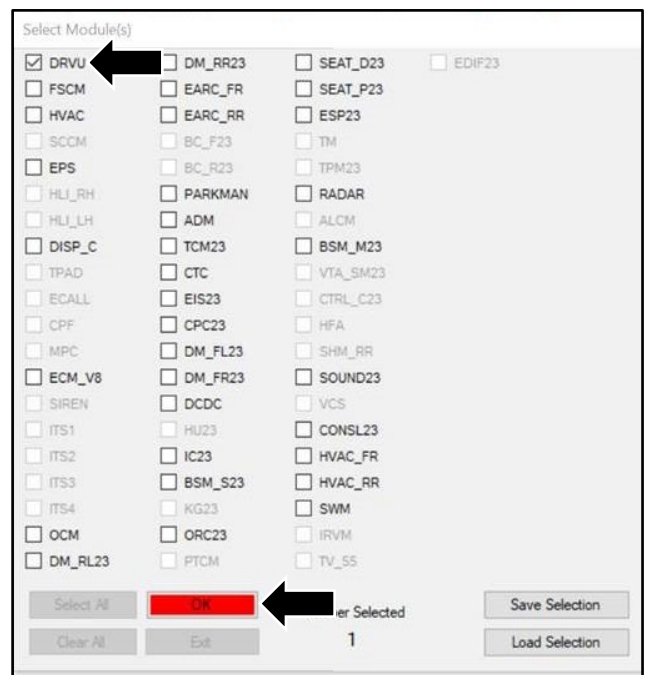

Figure 2
5. Select "DRVU" then click "OK" (refer to Figure 2).